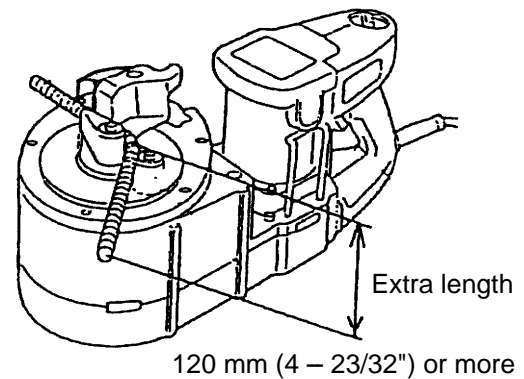

Fig. 9
(3) Make absolutely sure that the cutter cover is closed when you are not carrying out cutting work. If the cover is kept open, the cutter can jam on foreign objects and cause serious accidents.
(4) Reserve an extra length of at least 120 mm (4 – 23/32") on the bending length of the rebar to be bent (Fig. 9).